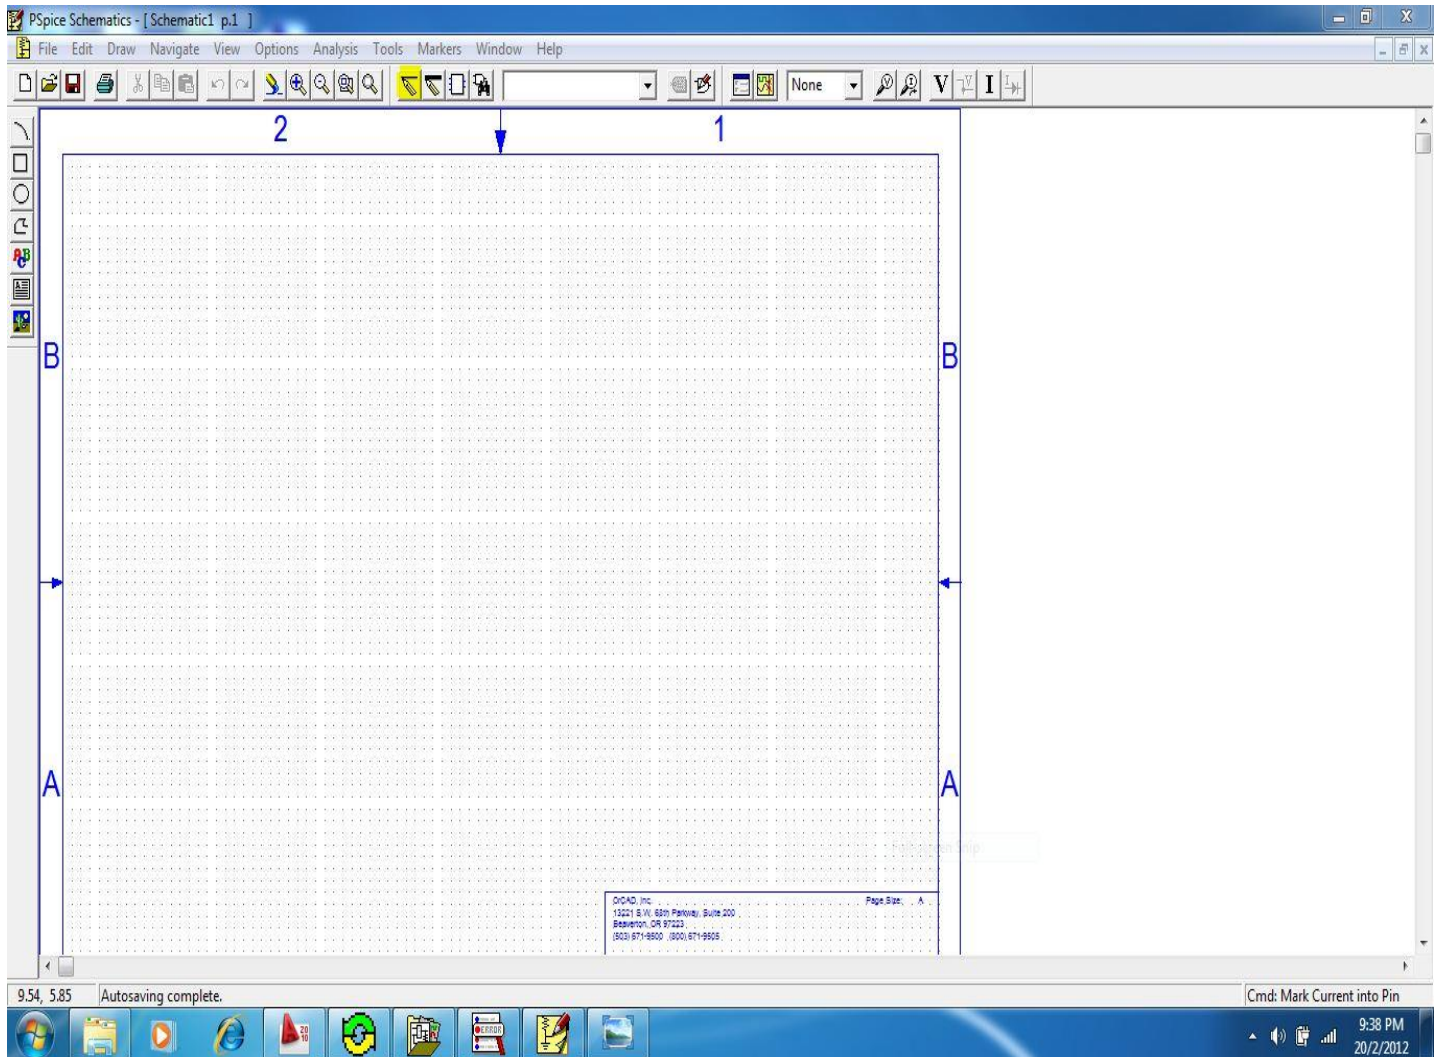

Figure-6
9. The Figure-6 highlighted **Draw wire** button by yellow color, a pencil symbol appears, by this we can draw a wire to connect between circuit elements, the wire that is drawn is either parallel or perpendicular to the x axis.